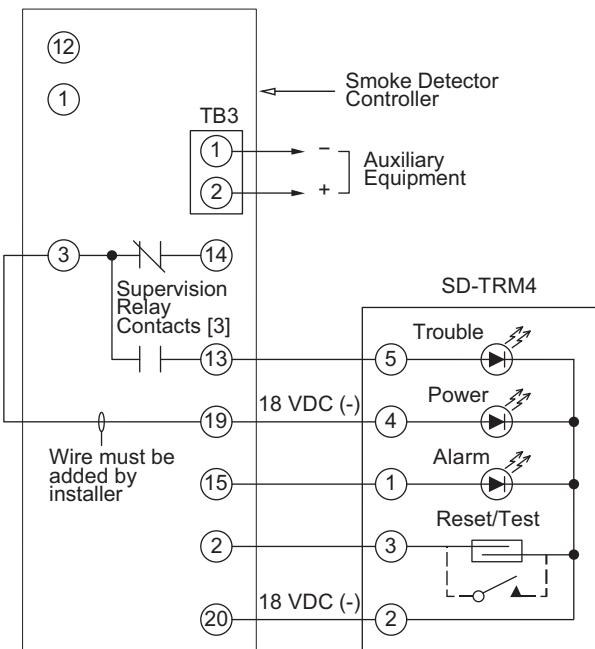

Fig. 45 — Remote Test/Reset Station Connections
The test/reset station dirty sensor test checks the test/reset station's ability to initiate a sensor dirty test and indicate the results. It must be wired to the controller as shown in Fig. 45 and configured to operate the controller's supervision relay. For more information, see "Dirty Sensor Test" on page 28.
1. Verify that the remote test/station is wired as shown in Fig. 45. Repair or replace loose or missing wiring.